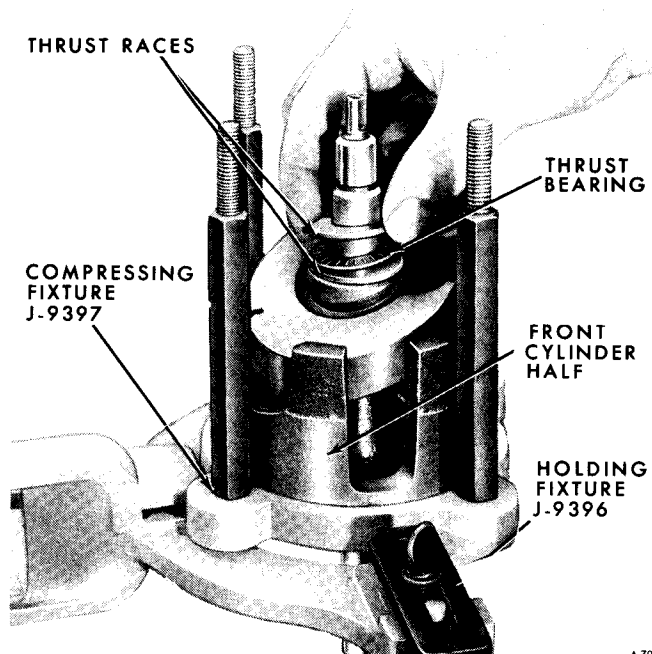

Figure 106—Installing Rear Thrust Races And Bearings
5. Now install a zero thrust race on rear end of compressor shaft (figure 106), so that it rests on hub of axial plate. Then install thrust bearing and a second zero thrust race. Lubricate races and bearing with petrolatum.